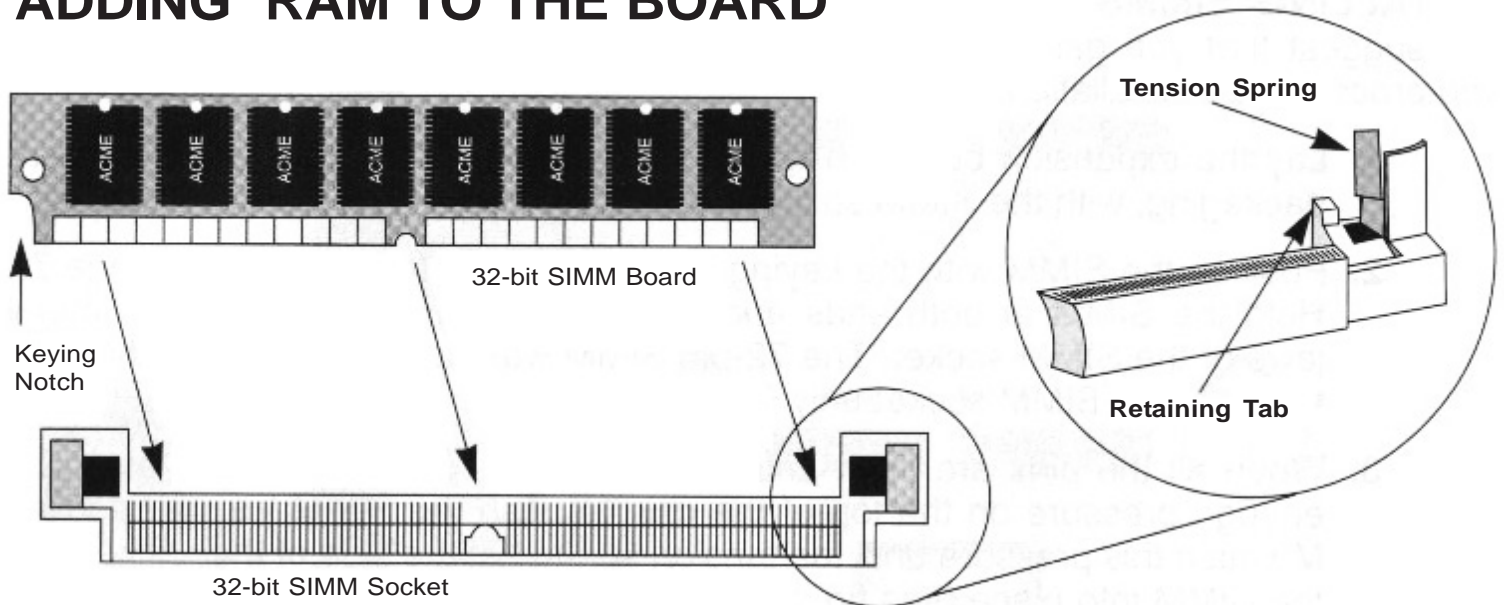

Figure 2.1 - How a SIMM Socket operates
5. Remove the board from its protective anti-static packaging and, with SIMM socket (see fig. 2.1 on page 7) facing toward the back panel of the computer, gently ease it onto the gold edge connector in the expansion slot (see fig. 1.2). Take great care that the memory expansion board is flush with the connector and not at an angle. Press the board in firmly so as to create a good connection (see fig. 1.3) and replace the plastic trapdoor panel.
The AMITEK expansion board has one SIMM socket (see fig. 2.1), that can be populated with 1Mb, 2Mb, 4Mb or 8Mb SIMMs. The FAST RAM used is of the 72-pin SIMM type and is the same as the RAM available in the high specification Amiga 4000. The AMITEK board will accept RAM that is 80ns (nanoseconds) in speed, or quicker (the lower the nanosecond rating, the faster the RAM performs). This SIMM is either supplied as part of the product that you have purchased or can be bought from your local Amiga dealer.
2. Position the SIMM with the keying notch to the left (see fig. 2.1 on page 7). Hold the SIMM at both ends and insert its metal contacts into the metal jaws of the SIMM socket. The 72-pin SIMM was designed to allow the user to fit it into a SIMM socket only ONE way.
3. When all the pins are flush and securely in the jaws of the socket, apply enough pressure on the top of the chip to push the SIMM into the socket. Maintain this pressure until the tension springs at the side of the socket lock the SIMM into place (see fig. 2.1). Equal pressure should be maintained to both side of the chip, as damage could be caused to the SIMM or SIMM socket.
Push both tension springs (see fig. 2.1 on page 7) outwards at the same time and the SIMM should come forward ready to be lifted out.